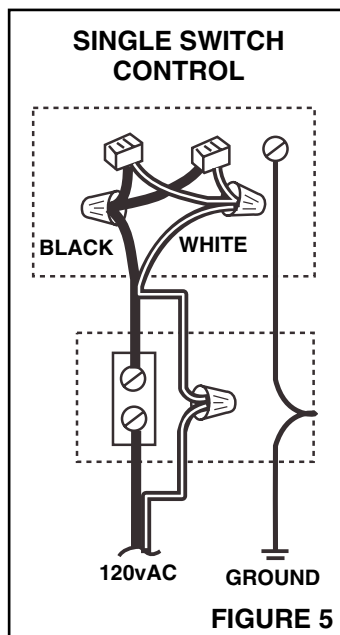
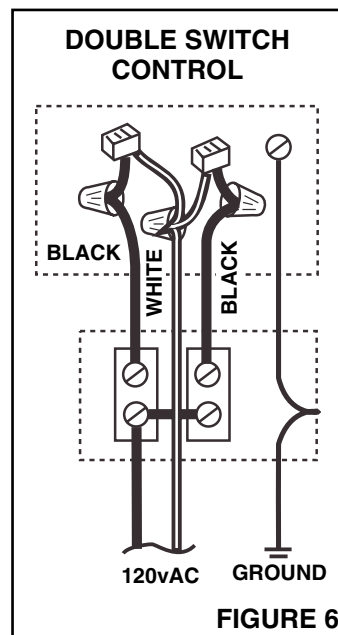

FIGURE 5
FIGURE 6
Refer to Figures 5 and 6.
4. If a single switch will be used to control both the fan and the light, make wiring connections as shown in Figure 5. If a double switch will be used for separate control of the fan and light, make connections as shown in Figure 6.
**WIRING AND DUCTING:** Refer to Figures 5 and 6 for wiring and to Figure 4 for ducting. Plan ducting and wiring before proceeding with installation.
- (1) Ducting can be installed or that area is sufficient for proper venting. The ceiling joists should run toward an outside wall.
- (2) Wiring can be run to the planned location.
- (3) No wiring or other obstruction might interfere with installation.